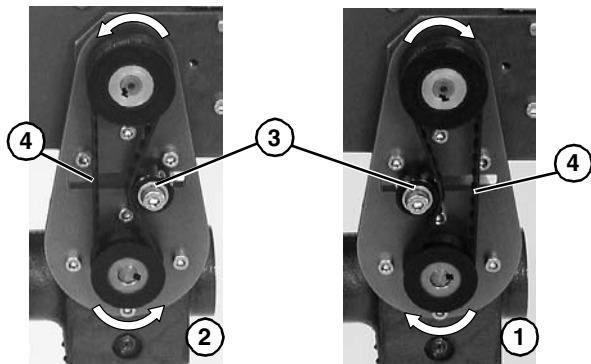

Figure 16
- Depending on direction of conveyor belt travel (1 or 2 of **Figure 16**), position belt tensioner (**Figure 16, item 3**) as shown. Tension belt to obtain 0.125" (3 mm) deflection for 1.0 lb (456 grams) of force at belt mid-point (**Figure 16, item 4**). Tighten tensioner screw to 103 in-lb (12 Nm).